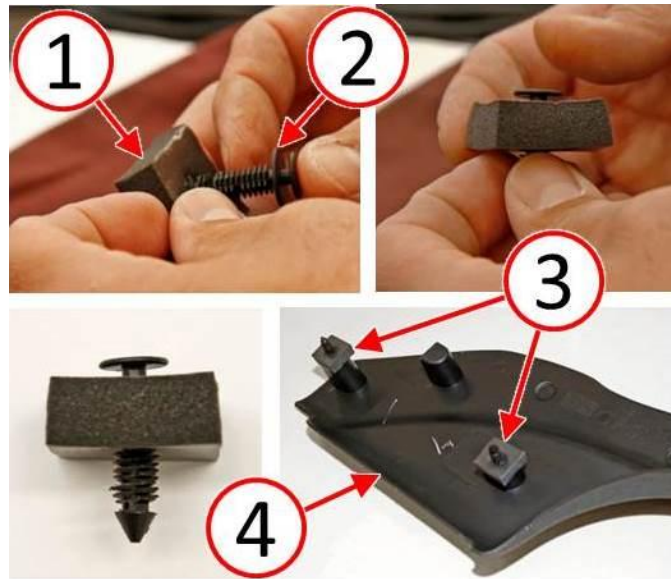

Fig. 4 Install Foam Seal
9. Install the created foam seal (1) onto the fir tree fastener (2) **with the sticky side facing toward the fir tree fastener head** (Fig. 4).
10. Install both fir tree fasteners with foam seal (3) onto the cowl trim panel (4) (Fig. 4).